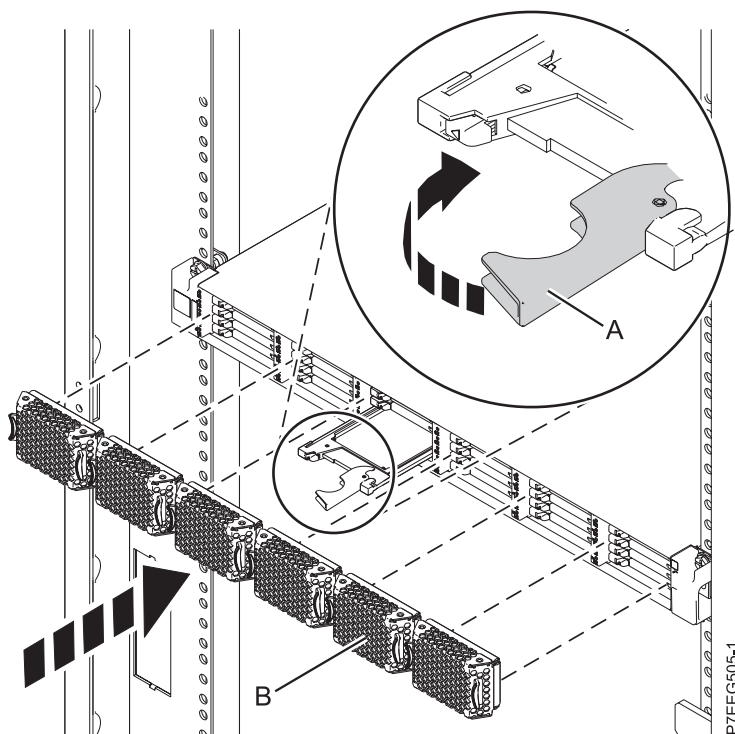

Figure 28. Replacing a solid-state drive in the ED/R1 PCIe storage enclosure.
3. Rotate the handle (A) to the locked position, as shown in Figure 28.
4. Install the bezel (B).